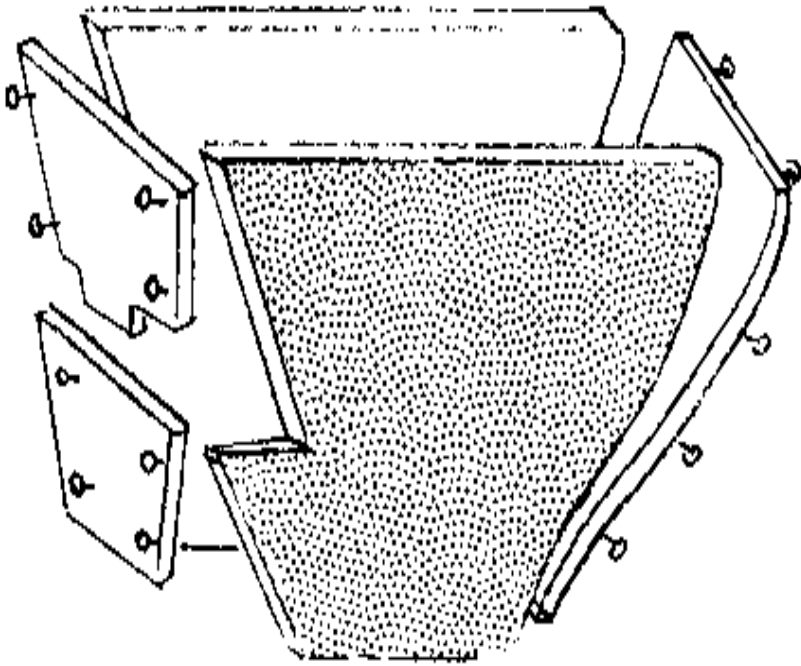

FIGURE 12
A water-seal bowl improves a latrine by keeping flies out of the pit and preventing odors from escaping. The mold described here (see Figure 12) has been made
- o Nail the metal sheet around the curved back of the mold (see Figure 12).